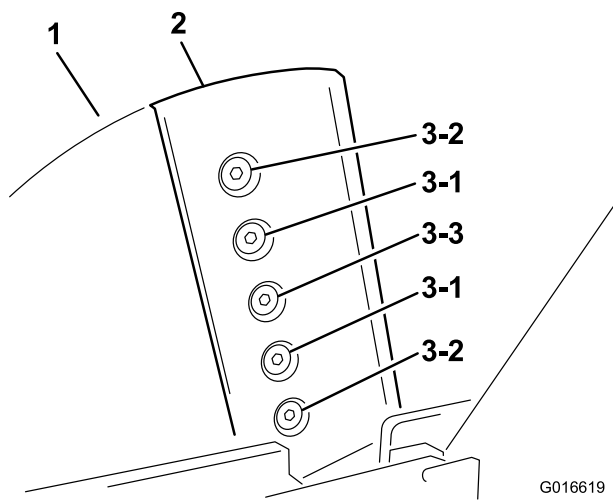

Figure 29
- Rotate the flywheel using a stick until the bolts and lock nuts attaching the cutter blades to the flywheel are accessible (Figure 29).
5. Tighten the center bolts and nuts first, then tighten the outer bolts and nuts, and finally tighten the inner bolts and nut. See sequence for tightening (Figure 29).